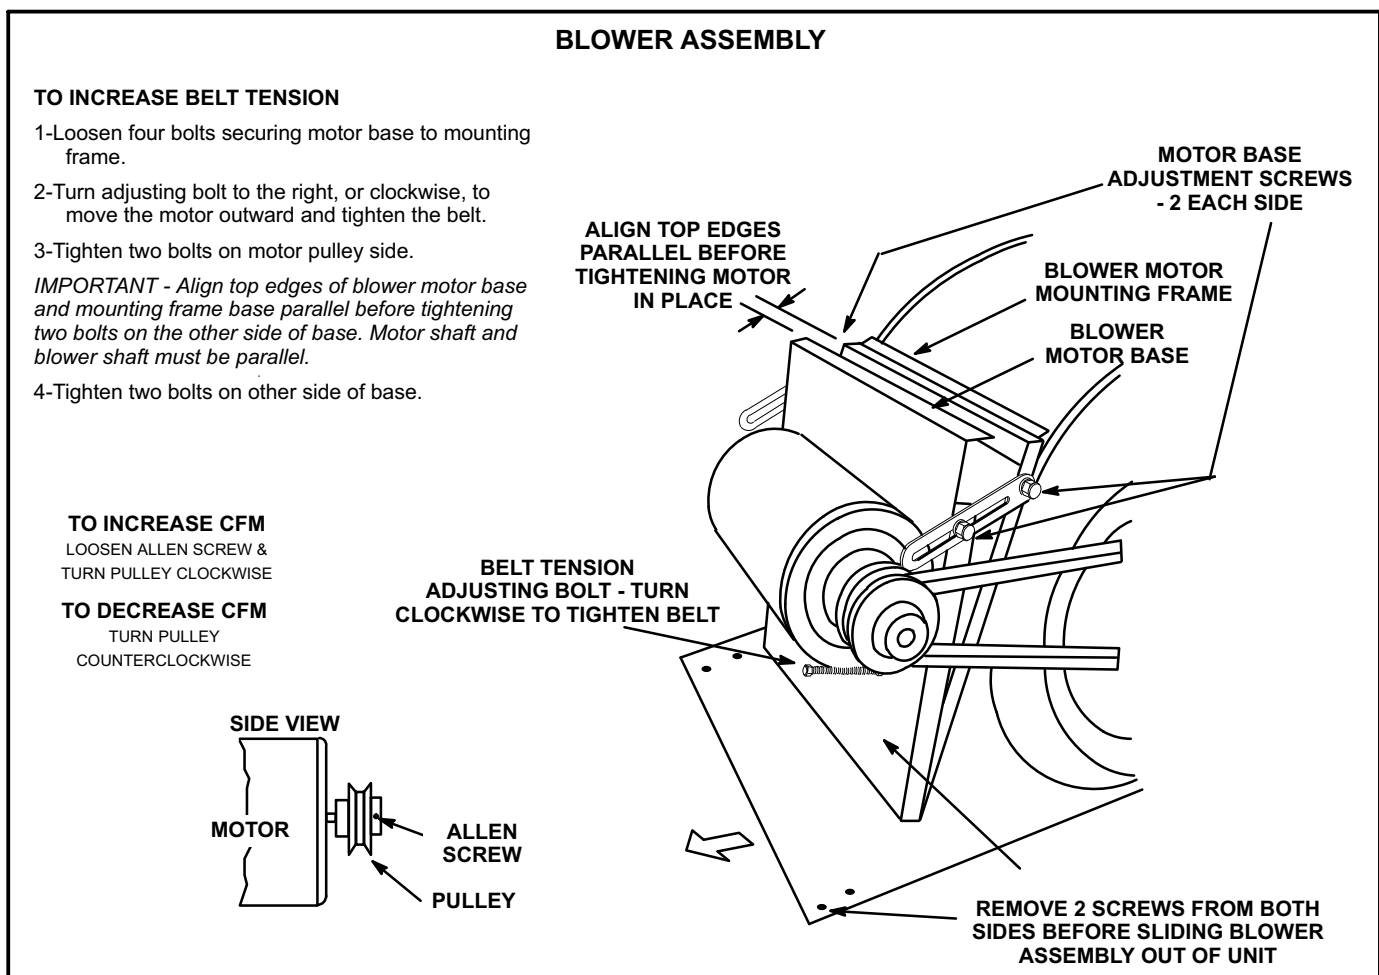

FIGURE 9
The blower compartment in all THA090/150 units is located between the indoor coil and the outdoor coil section. The blower assembly is accessed by disconnecting the blower motor and all other plugs and removing the screws in front of the blower housing. The blower pulls out as shown in figure 9.
The blower assembly is secured to a sliding base which allows the entire assembly to be pulled out of the unit. See figure 9.
- 4- The blower RPM can be adjusted at the motor pulley. Loosen Allen screw and turn adjustable pulley clockwise to increase CFM. Turn counterclockwise to decrease CFM. See figure 9. Do not exceed minimum and maximum number of pulley turns as shown in table 10.
1- Loosen four bolts securing motor base to mounting frame. See figure 9.